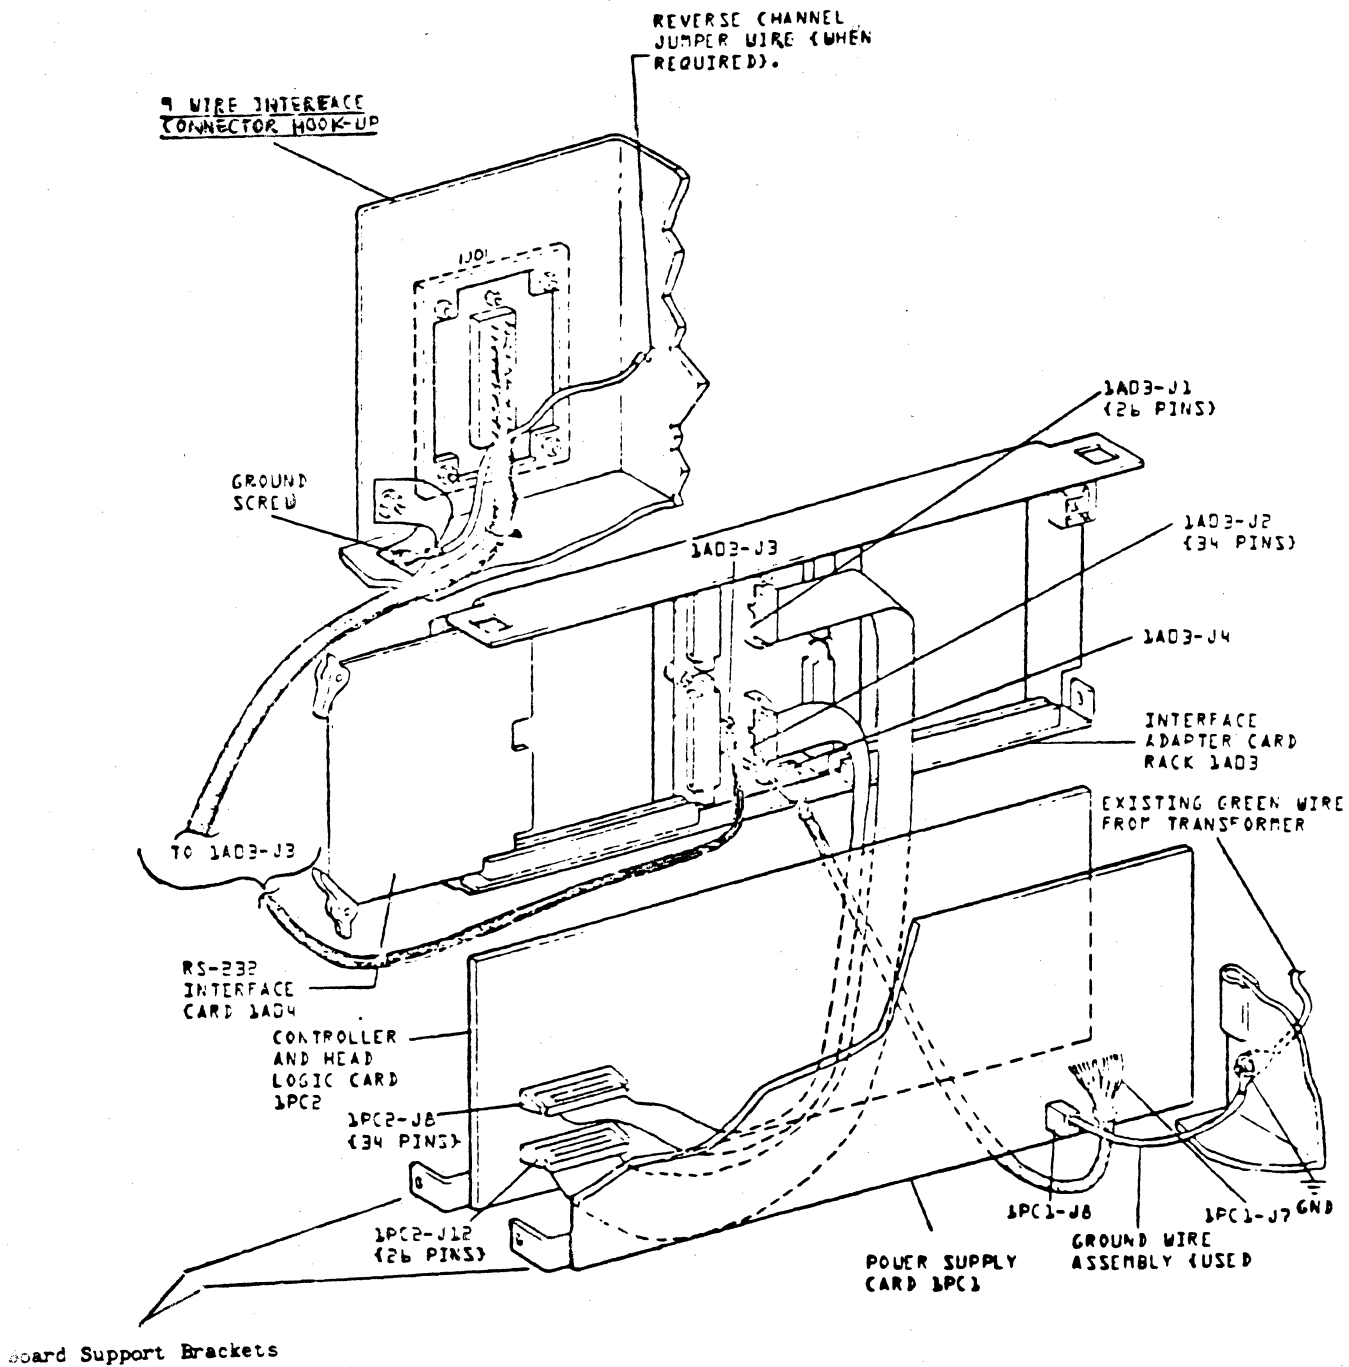

Figure 70-7. RS-232 Interface Card and Rack
- 2) Locate controller/head logic, power supply and RS-232 interface board 1A04 in printer chassis (figure 70-7).